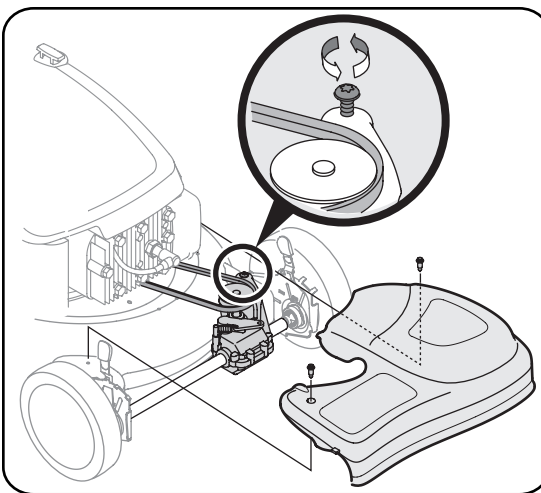

Figure 5-4
1. Remove two shoulder screws securing front drive cover to mower deck. See Figure 5-4. Press inward on sides of front drive cover and release tabs that secure it to the height adjuster brackets. Remove drive cover from mower.
2. Loosen screw holding belt tension spring to transmission. See Figure 5-4 inset. Do not remove screw completely. As you loosen it, tension on the belt will be released.